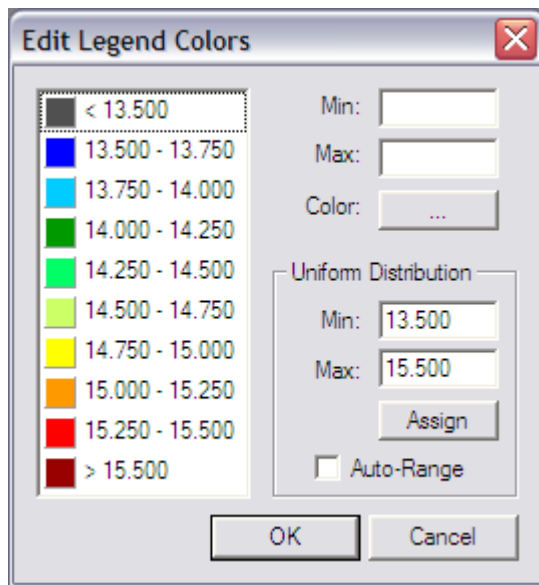

Figure 3.24 Legend Dialog Box
**Editing the Legend:** Edit the legend by double-clicking in the Legend panel. This opens the Legend dialog box, shown Figure 3.24.